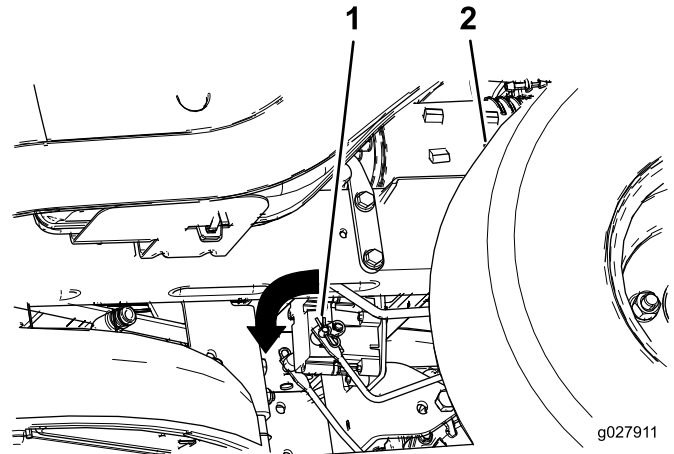

Figure 43
2. Locate the shafts where the brake-link arms are connected on both sides of the electric brake (Figure 43).